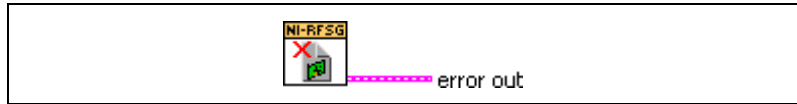

Figure 18. Error Out Terminal on niRFSG Close VI
22. Create an error indicator by right-clicking the **error out** terminal of the niRFSG Close VI and selecting **Create>Indicator**. The **error out** terminal is highlighted in Figure 18.